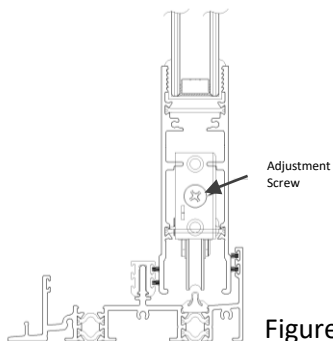
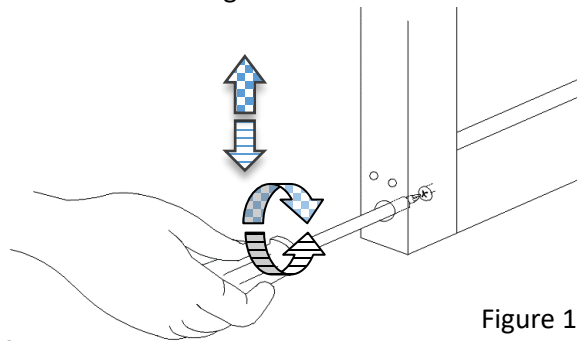

Figure 11a
Figure 11b
14. Temporarily adjust the panel upward by lifting the panel and turning the adjustment screw shown in figure 11a clockwise as shown in figure 11b until the rollers regain contact with the track. It is important to physically lift the panel while adjusting upward so that the adjustment screw does not strip due to the weight of the panel. Adjust the rollers of the active panels by turning the adjustment screw shown in figure 11a to achieve proper alignment of the door panels (it is easier to adjust down than up). Turn screw clockwise to raise the panel and counterclockwise to lower the panel as shown in figure 11b.